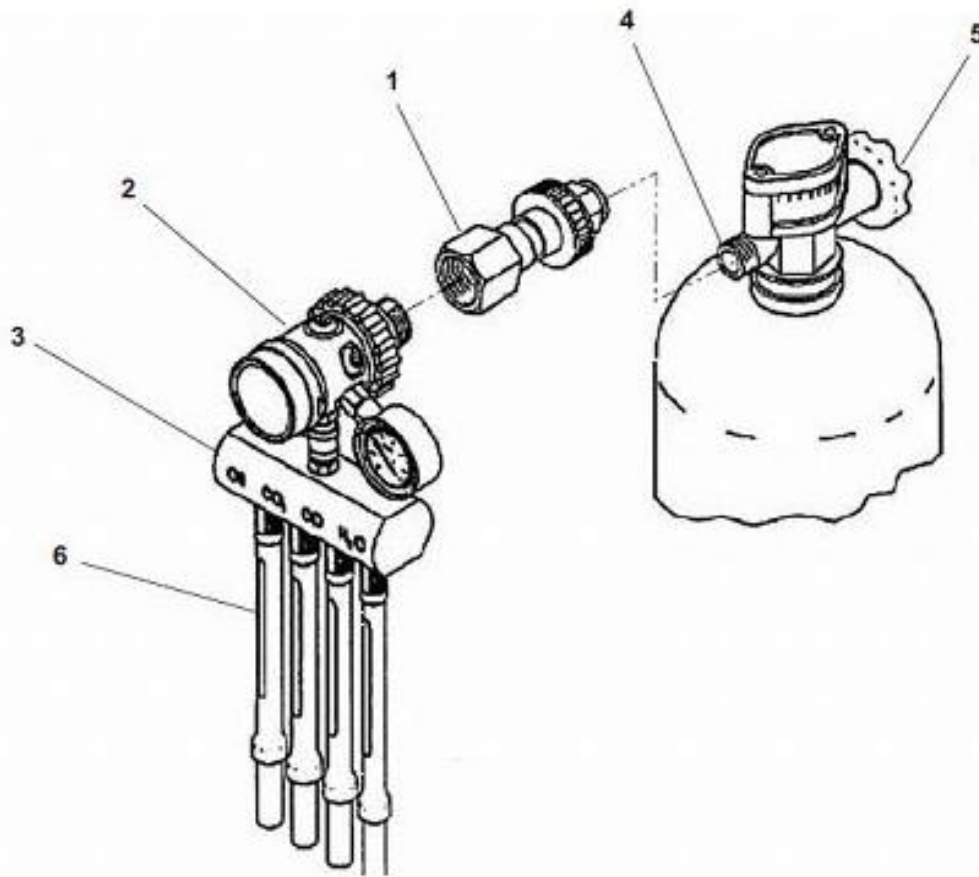

Figure 551-8ST-1004\_29 (SCBA Cylinder, Adapter, and Measuring Device)
(3) Discharge the SCBA cylinder by slowly turning the handwheel (item 3) on the SCBA cylinder to the fully (CCW) open position.
(4) Open (CCW) the bleed valve (item 4) on the fill hose assembly. (item 2)
(5) Wipe the condensate from the cylinder valve threads with a lint-free rag, AFTER the SCBA cylinder is completely discharged, as indicated by a pressure gauge displaying zero. (item 5)
(6) Fill the SCBA cylinder to 4500 PSI.
(7) Remove the E-BAC/SS fill hose assembly from the SCBA cylinder.
(8) Install the air test kit adapter (item 1), reducer (item 2), and measuring device (item 3) on the SCBA cylinder (item 4). All connections should be hand tight only. (Figure 551-8ST-1004\_29)